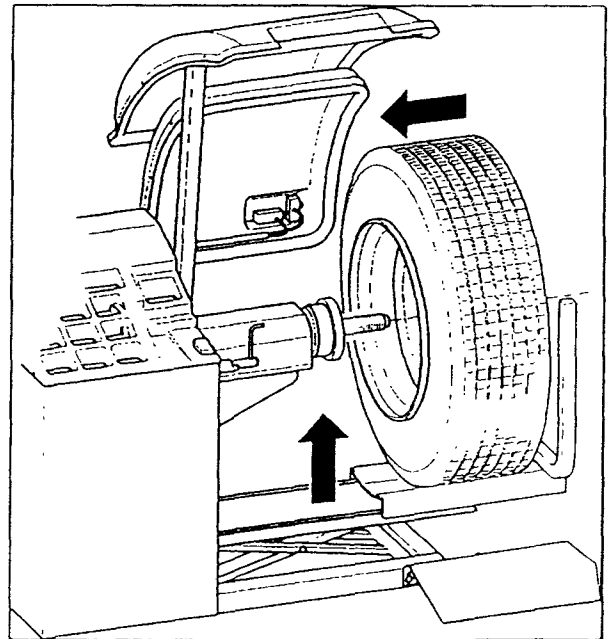

Fig.20
- C. Lift the wheel approximately to the same height as the machine shaft. Slide the wheel towards the machine and center the wheel with a cone from the side (Fig.20).